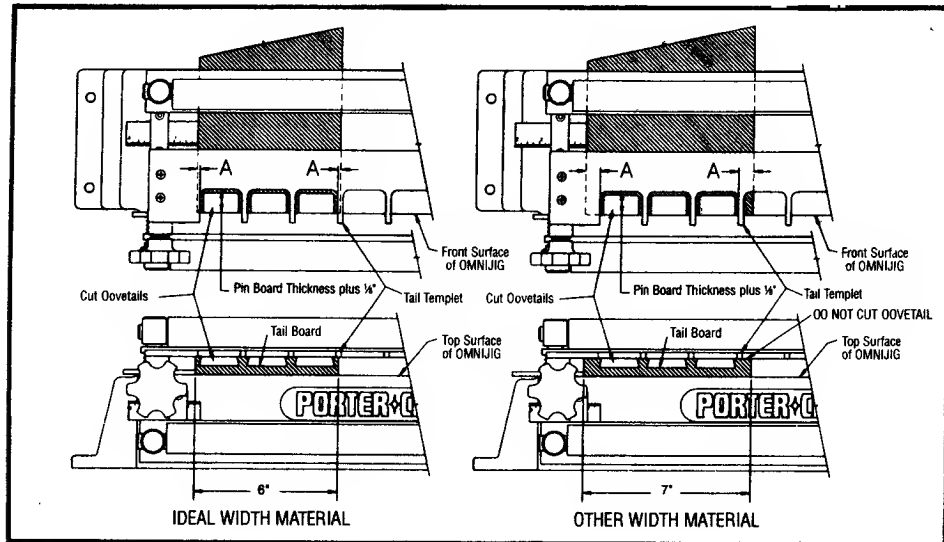

Fig. 20
3. Place Tail Templet on top of tail board and position so that the distance from back edge of the templet slots equals the thickness of the pin board plus 1/8" (see Fig. 20). This distance must be the same at both ends of the templet. Tighten knobs to secure templet in place.
4. Center tail board with respect to the fingers so that dimensions, (A) Fig. 20, are equal and clamp board in place.
7. Rout tail board same as that for 1/2" half-blind dovetails. **NOTE:** When routing material that is other than "ideal widths", do not cut the last partial dovetail. See Fig. 20.